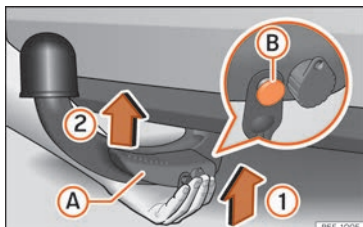

Fig. 179 Putting the tow hook in place. Step 1.
- Hold the tow hook **from below** and fit it into the hook housing in the direction of the arrow »» Fig. 179 ① until it is heard to fit into place »» ⚠.
Lever »» Fig. 179 ① automatically turns in the direction of arrow ② upwards, and the release bolt ② moves outwards (its red and green parts are visible) »» ⚠.
- Keep your hands away from the lever when fitting the tow hook to avoid trapping your fingers »» Fig. 179 ①.